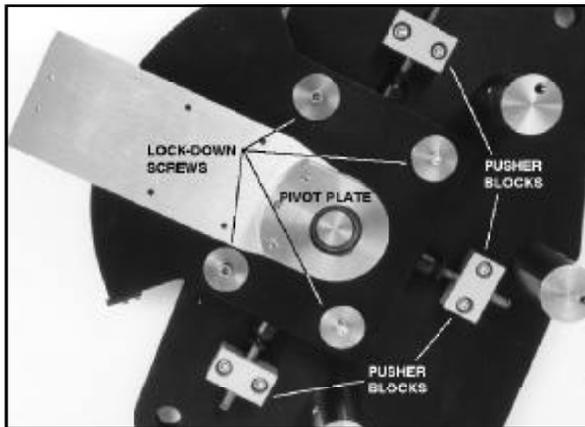
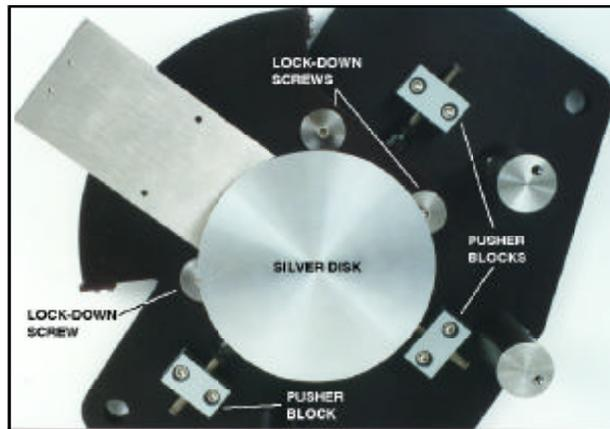

Figure 2-17. 2 θ -pivot plate and adjustment points (steel sled).
Figure 2-18. 2 θ -pivot silver disk and adjustment points (cast sled).
- 3) For a steel sled, sweep the needle of the indicator along the silver pivot plate on the stage, Figure 2-17. For a cast sled, sweep the needle along the edge of the round silver disk in the collar on the 2θ -pivot, Figure 2-18. (Some cast sleds have an arc ground into the stage rather than the silver disk, sweep the needle along this arc.) The dial reading must remain the same, within 0.005", for the ϕ -axis and the 2θ -pivot to be considered concentric.
- 5) Loosen the four lock-down screws located on the top of the pivot plate. Refer to Figure 2-17 for a steel sled, Figure 2-18 for a cast sled.
- 6) To move the pivot plate left or right, use the pusher blocks located on the sides of the pivot plate. Refer to Figure 2-17 for a steel sled, Figure 2-18 for a cast sled. Loosen one and tighten the other until the plate is centered.